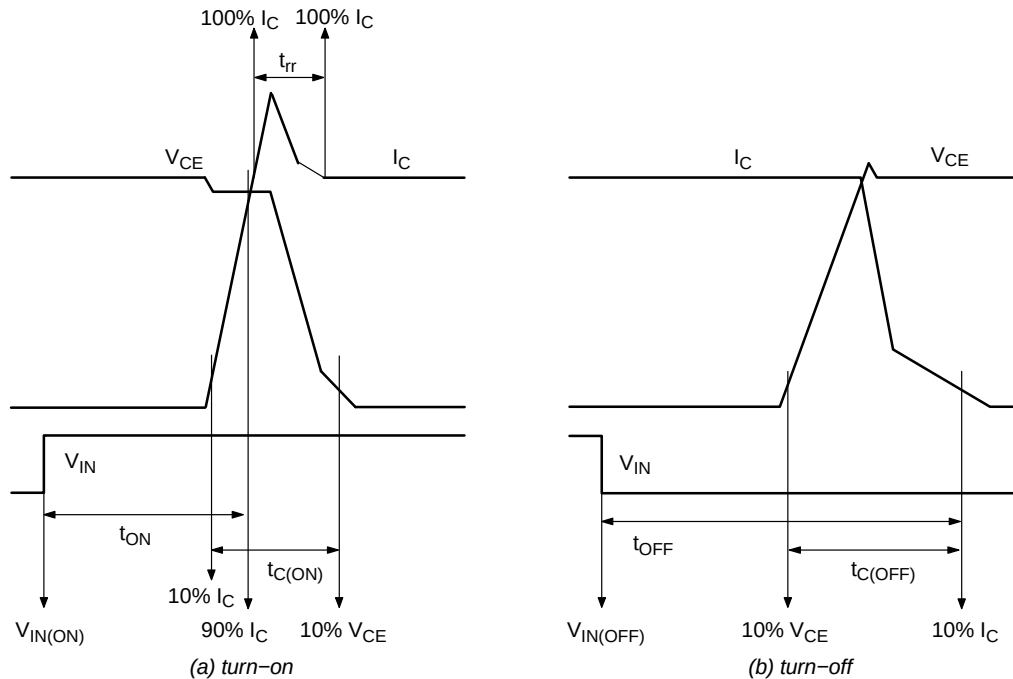

Figure 3. Switching Time Definition
7. t_{ON} and t_{OFF} include the propagation delay time of the internal drive IC. $t_{C(ON)}$ and $t_{C(OFF)}$ are the switching times of IGBT itself under the given gate driving condition internally. For the detailed information, please see Figure 3.